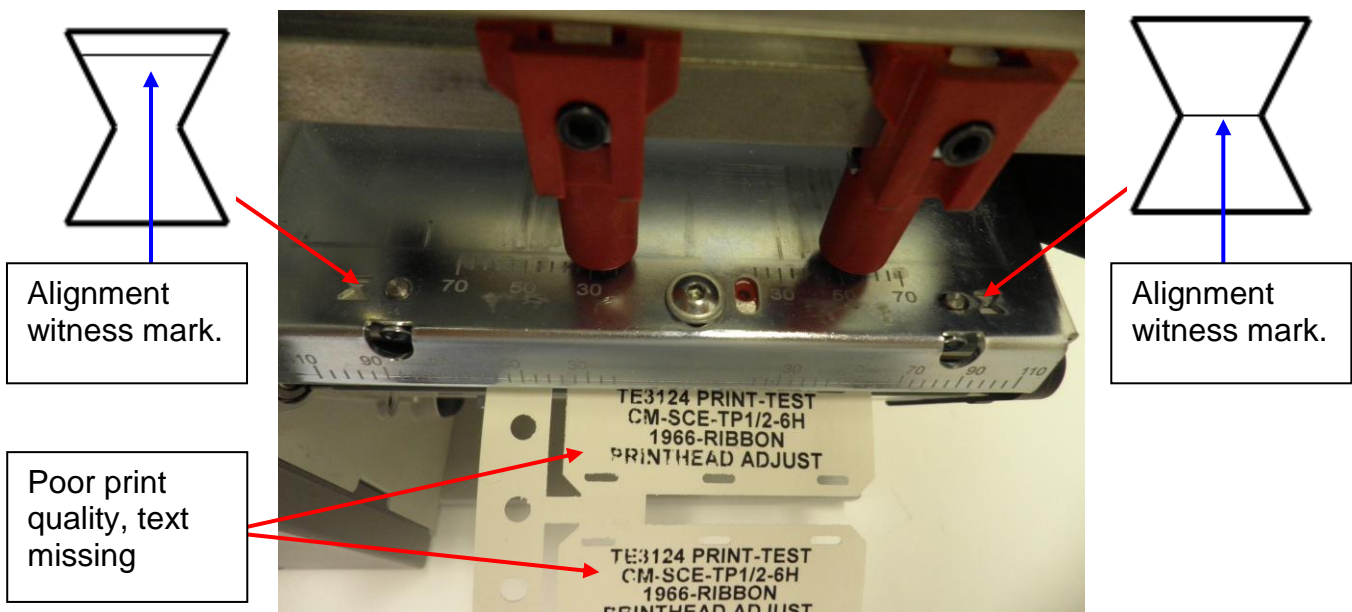

Figure 4 - Example of print that requires printer printhead alignment.
3.2. Figure 4 shows a misalignment of the printhead resulting in poor print quality, (imbalance – as shown by the alignment witness marks **NOT** being similarly located)